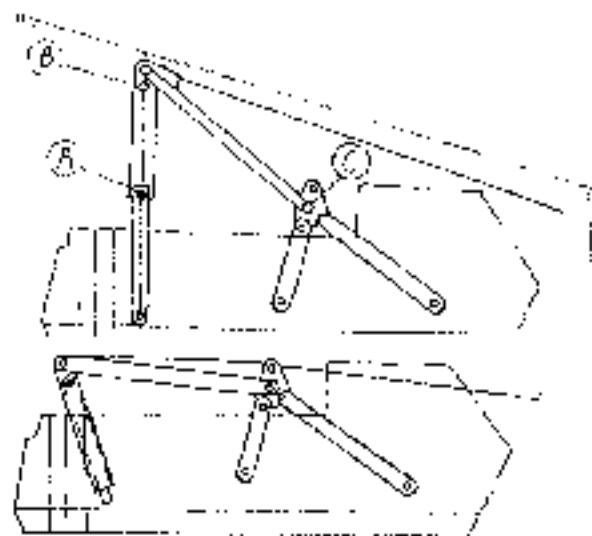

Fig. 12
- c). Loose the elevating rope slowly, pull out pin A; (see Fig. 12).
- d). Loose the elevating rope further, take C as the center to lower the gantry slowly. (see Fig. 12).